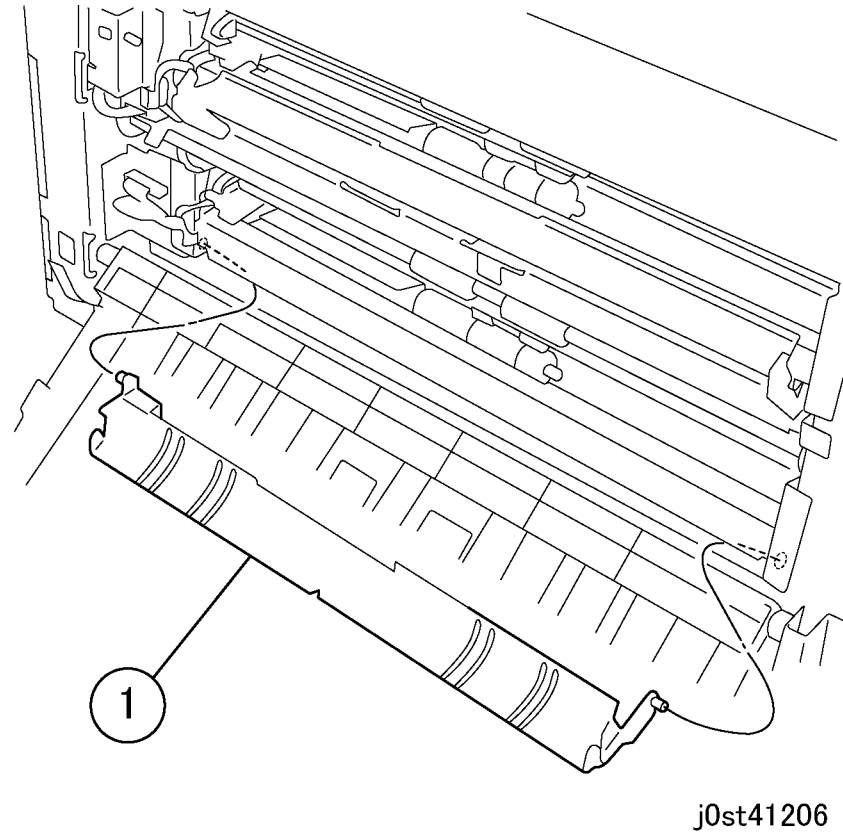

Figure 4 Removing the Feed Out Chute (j0st41206)
6. Remove the Feed Out Chute. (Figure 4)